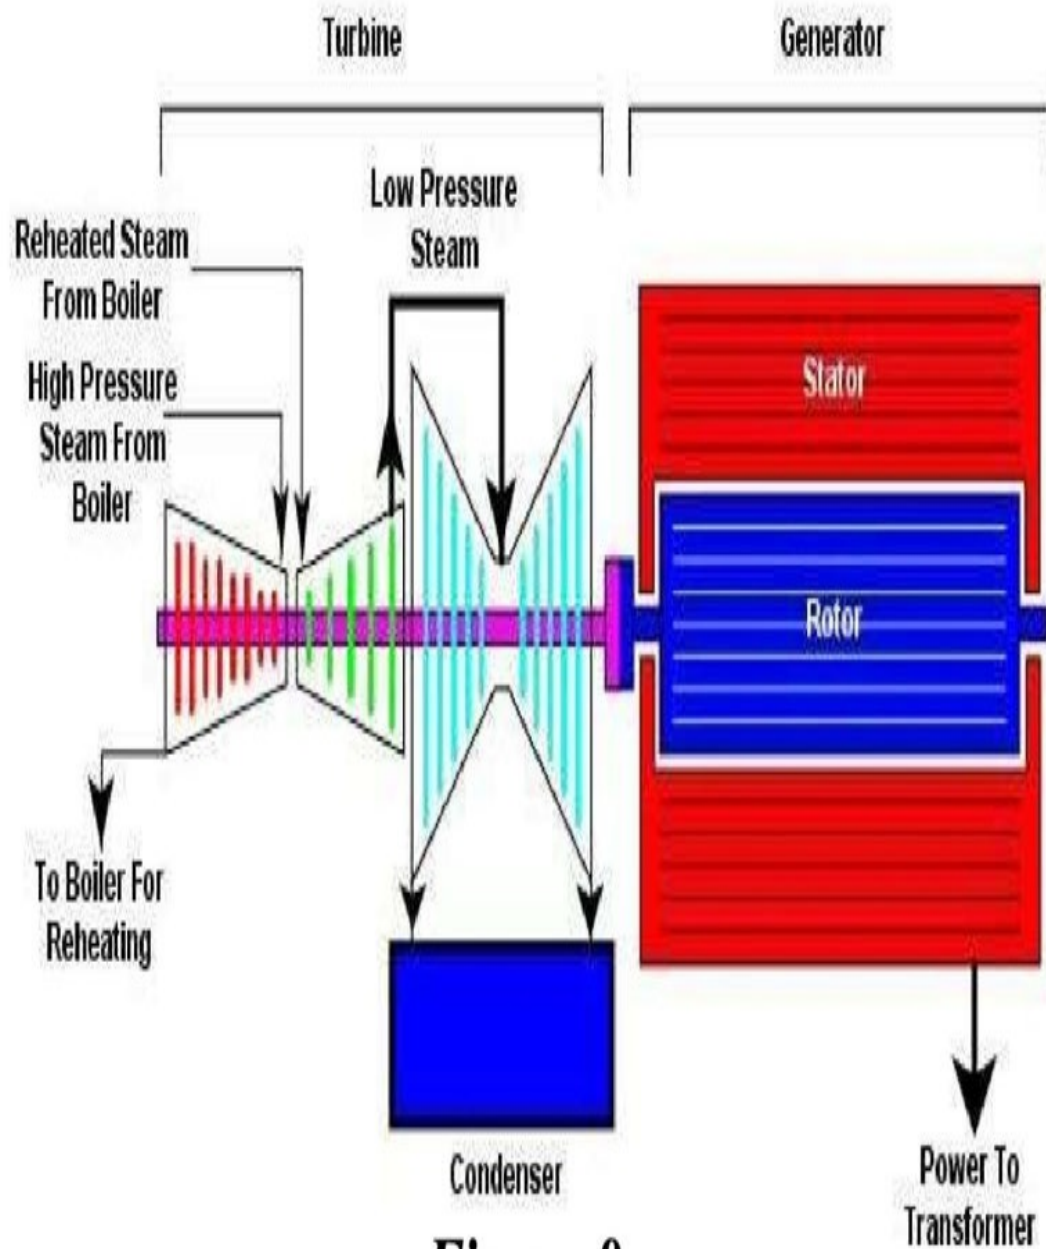

Figure 8
- Figures 8 & 9 shows the operation of the steam turbine.